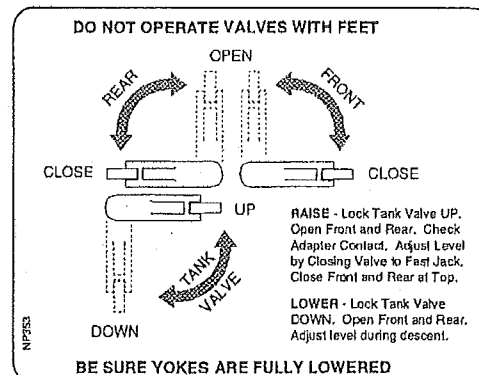

Fig. 25
A. Set the selector (UP/DOWN) valve handle to the "UP" position, Fig. 25.